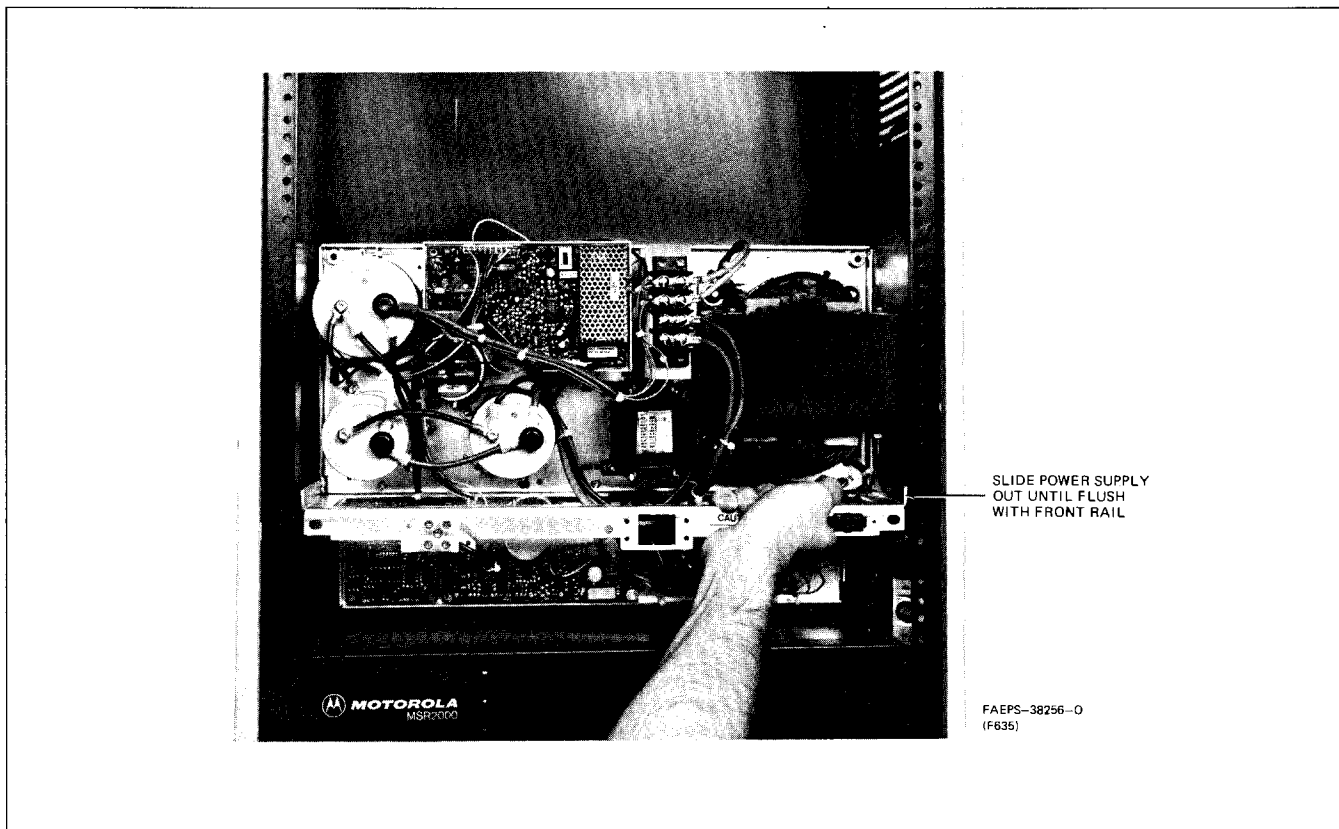

Figure 3. Power Supply Chassis Travel Distance
Step 3. Slide power supply chassis to you until chassis is flush with cabinet as shown in Figure 3.